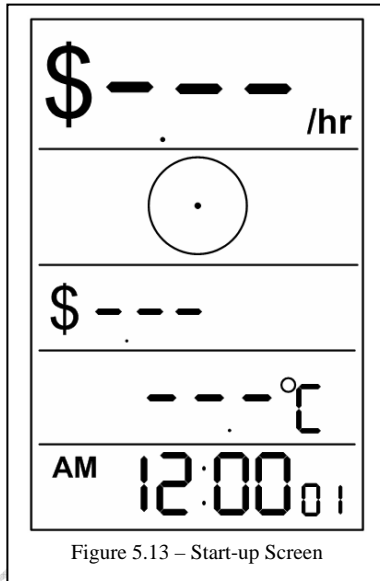

Figure 5.13 – Start-up Screen
4. The first time you synchronize your PowerCost Monitor system, the Display Unit will show the start-up screen like the one depicted in figure 5.13, below. **If you do not see this screen, synchronization has not been successful and you need to repeat steps 1 -3, above.**